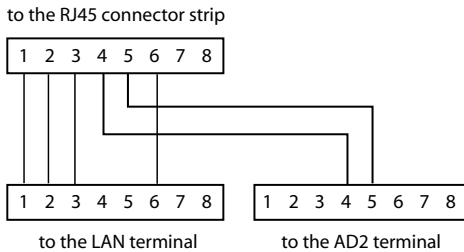

Fig. 64 Connection diagram
- Splitting the signals after a single RJ45 socket using a Y-adapter with a wiring circuit as shown in Fig. 64 (commercially available). The wiring of the cable cores of PINs 7 and 8 is irrelevant as they are not required.